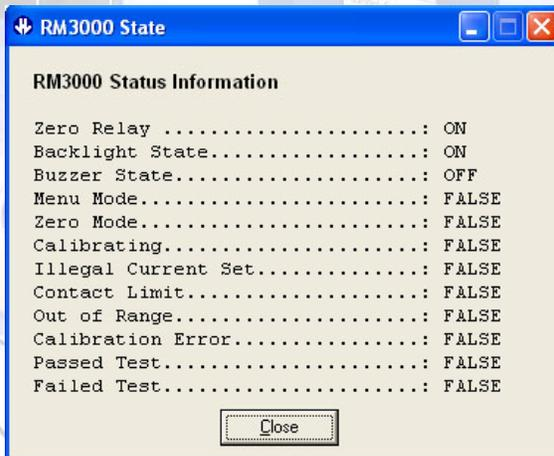

FIGURE 4
**RM3000 State** – this gives the pop-up shown in Figure 4